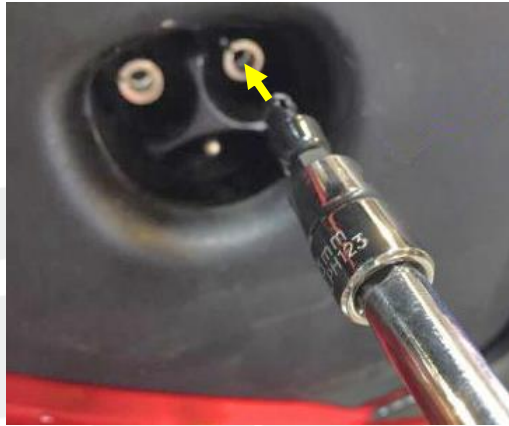

Figure 7
14. Insert the new charge port insulator pins into a 3 mm hex socket, and then use an extension to push the insulators into the charge port assembly power terminals until they are seated (Figure 7).